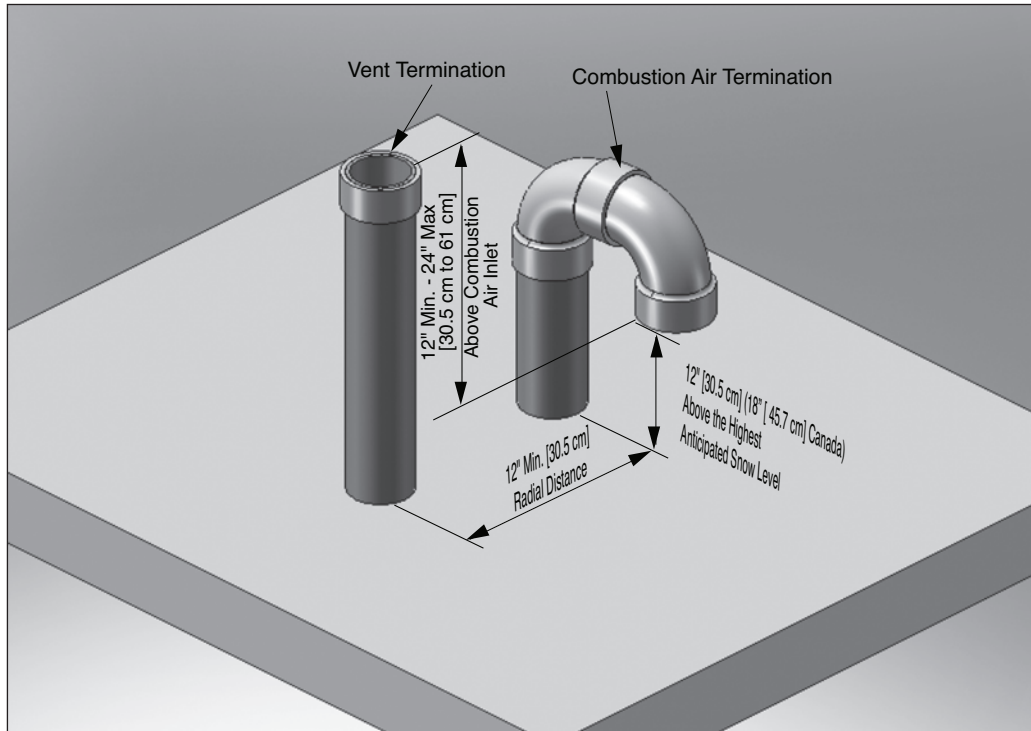

Fig. 1: Direct Vent - Vertical Termination of Vent and Combustion Air Piping.
2. The combustion air piping must terminate in an upside down “U” shape fashion using two 90° elbows as shown in Fig. 1 page 12 or with a tee as shown in Fig. 2 page 12. The termination must be installed 12” [30.5 cm] (18” [45.7 cm] Canada) above the highest anticipated snow level.
3. The vent must terminate vertically with a coupling to accept the bird screen and must be located 12” to 24” [30.5 cm to 61 cm] above the combustion air inlet as shown in Fig. 1 & Fig. 2 on page 12.
4. The vent and combustion air terminations must be located a radial distance of 12” to 24” [30.5 cm to 61 cm] from centerline of vent termination to centerline of air termination as shown in Figs. 1 & 2 on page 12.
3. Locate the vent and combustion air pipe penetrations to provide clearances as described in Fig. 1 & Fig. 2 on page 12.
2. The combustion air piping must terminate in an upside down "U" shape fashion using two 90° elbows as shown in Fig. 1 page 12 or with a tee as shown in Fig. 2 on page 12.
3. The vent piping must terminate vertically with a coupling as shown in Figs. 1 & 2 page 12.
**Do not extend the vent pipe above the roof beyond the dimensions shown in Fig. 1 & Fig. 2 on page 12. Extended exposure of the vent pipe could cause condensate to freeze and block the vent pipe.**